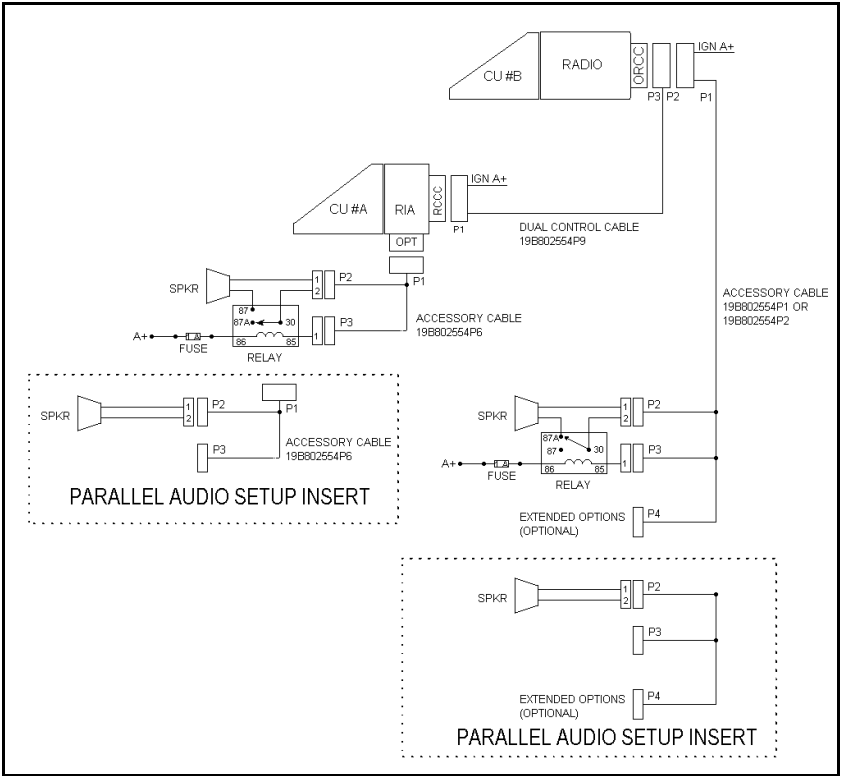
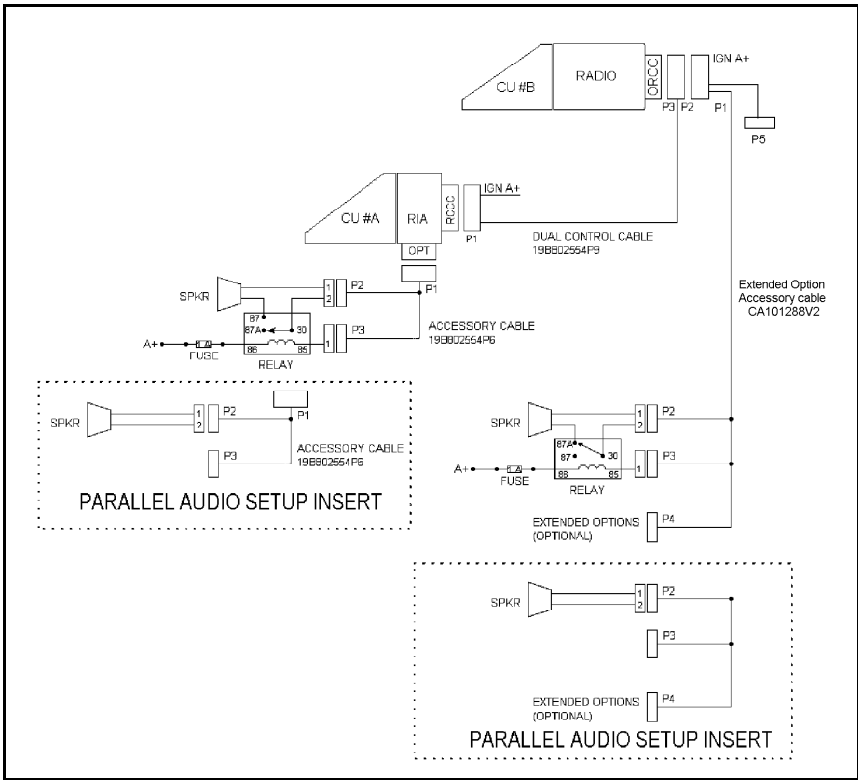

Figure 44: Dual Control Unit Front Mount Installation Configuration using 19B802554P1 or P2
Figure 45: Dual Control Unit Front Mount Installation Configuration using CA101288V2
1. Referring to Figure 44 and Figure 45, run the Dual Control Cable (19B802554P9) between locations for the Radio Unit and Auxiliary Control Unit. Be sure to locate the P2/P3 connector assembly at the radio unit.
In special configurations that require both speakers to operate at the same time (simultaneous audio), install the speakers for parallel audio operation. For wiring information, refer to the Parallel Audio Setup Insert section of Figure 44 and Figure 45. Perform the following steps to install parallel audio speakers:
2. Hardwire each speaker directly (without relays) as shown in Figure 44 and Figure 45.
10. Auxiliary Control Unit Speaker: Connect the lead nearest the speaker to Pin 87 of the relay. Connect the lead nearest the connector to Pin 30 of the relay. Connect the speakers connector to the Accessory cables P2. See Figure 44 and Figure 45.
11. For each relay: Connect a #18 AWG black wire between the relay, Pin 85 and Accessory cable P3-1 (labeled "**OUT2**" on the schematic diagrams in the service manual). Use a 1/4" tab receptacle on the relay side and mating Molex connector and pins on the accessory cable side. Connect the mating Molex connector to the Accessory cables P3 when finished. See Figure 44 and Figure 45.
12. For each relay: Connect a #18 AWG red wire to the relay, Pin 86. Cut to length, and connect to the 1 amp fuse holder supplied. Use crimp on connectors supplied. Connect the other side of the 1 amp fuse holder to A+ battery source or vehicle A+ fuse block. Use #18 AWG red wire and ring lug supplied, if needed. See Figure 44 and Figure 45.